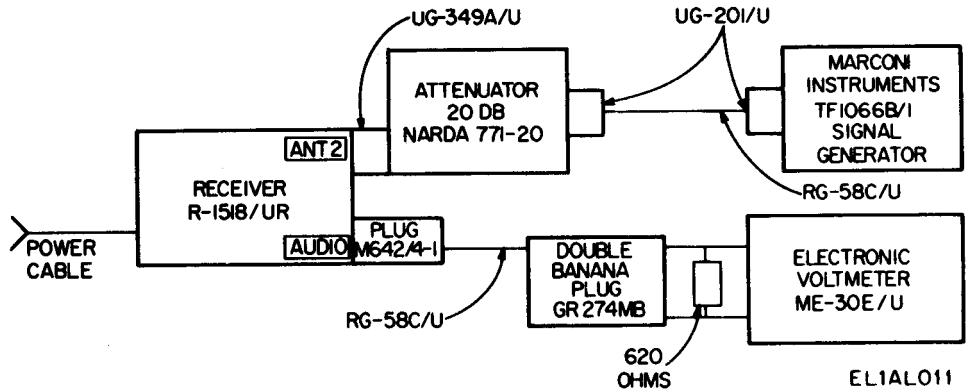

Figure 6-3. FM sensitivity test connections.
(1) Perform a(1) above.
(2) Connect the test equipment as shown in figure 6-3.